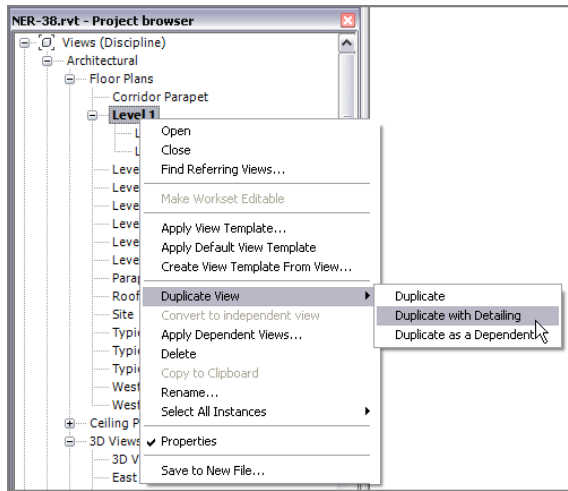

FIGURE 20.18: Duplicating the view
2. Right-click the Level 1 view in the Project Browser, and click Duplicate View > Duplicate With Detailing, as shown in Figure 20.18.